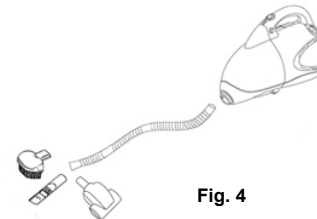

Fig. 4
- To use the flexible hose, push the smaller end of the hose into the suction hole, then attach the desired accessory to the other end of the flexible hose. (Fig. 4)